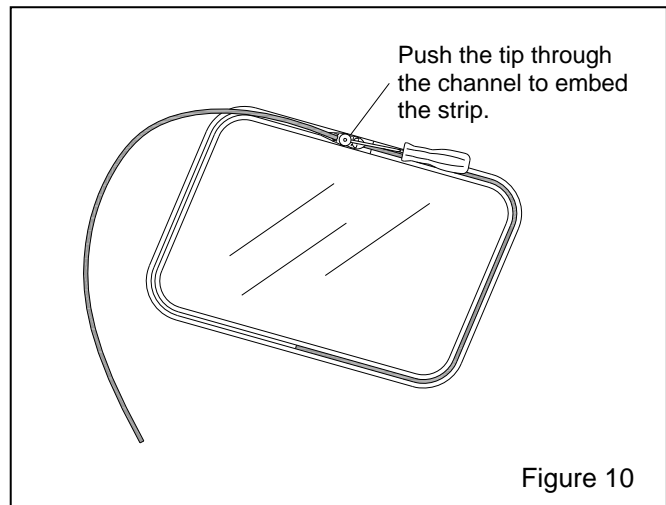

Figure 10
11. Hold short end of the filler strip and feed the strip into the channel by pushing the tool through the top of the channel. Rotate the tip as needed if the light shield or other obstructions interfere with moving the installation tool around turns. Ref. Figure 10.